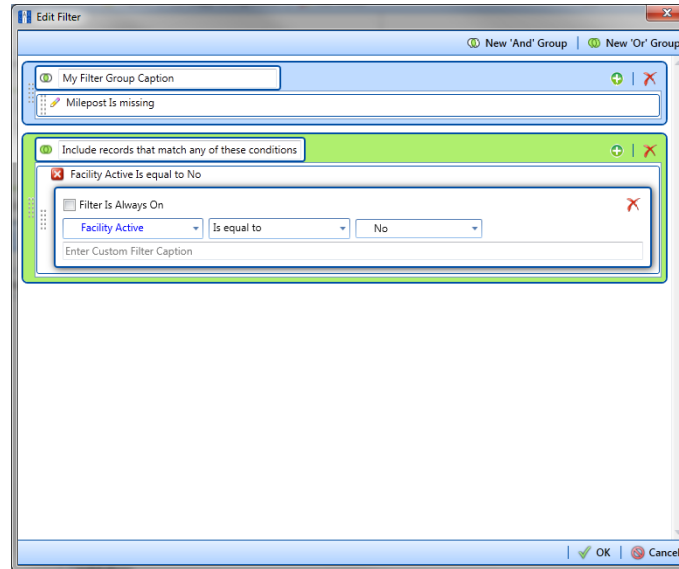

Figure 10-23. New 'Or' Filter Group
- a Click  **New 'Or' Group** to open a filter properties group box (Figure 10-23, page 477).